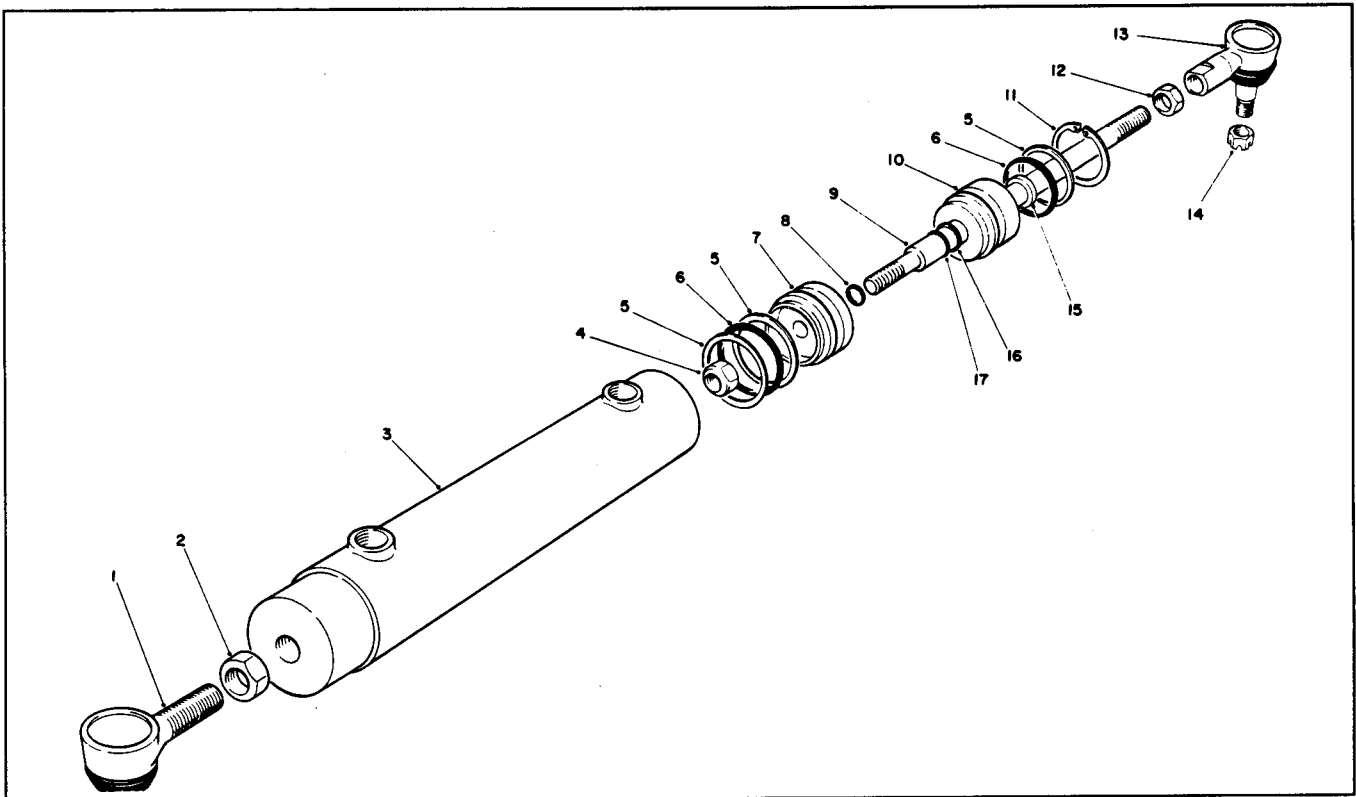

Figure 39
- Remove the retaining ring (Fig. 39).